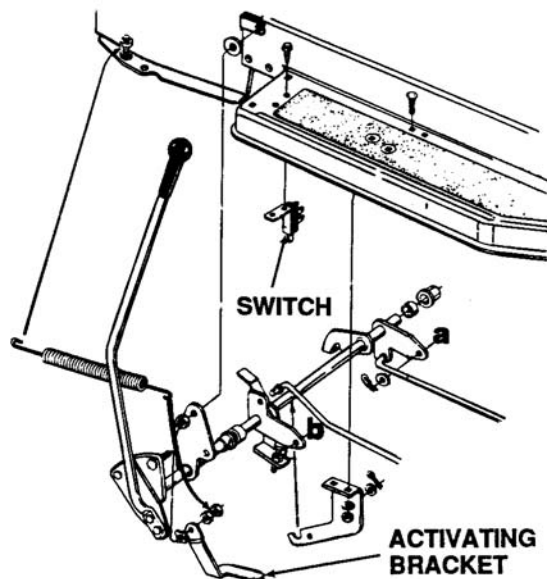

Figure 12-22. Location of Switch and Bracket
- 12-6.4 Production for 1988 has a new style switch and activating bracket. Check to be certain the switch activating bracket attached to the base of the lift lever is operating properly. See Figure 12-22.